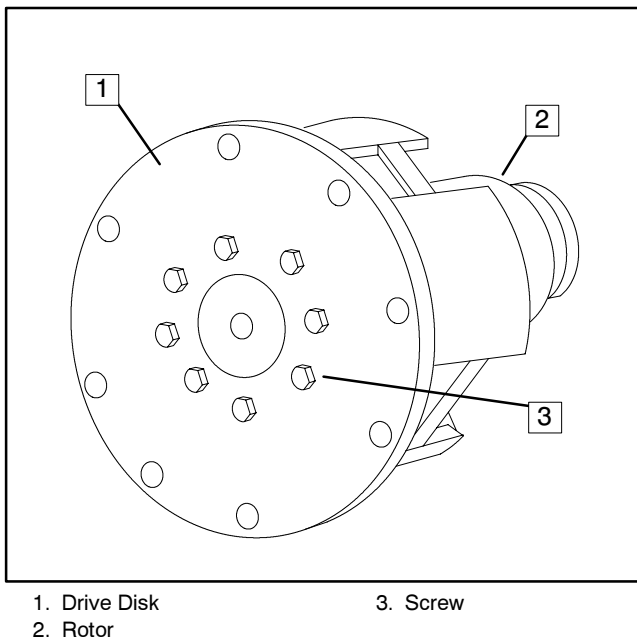

Figure 8-34. Removing the Armature Drive Disks
22. Remove the eight screws securing the armature drive disks to the rotor assembly using a 9/16-inch socket wrench and ratchet. See Figure 8-34.